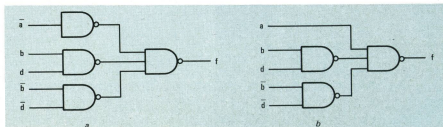

FIG. 8—LOGIC CIRCUIT is derived from reduced Karnaugh map and is shown in *a*. Inverter can be eliminated as shown in *b*.
- 8) Feed each term into a NAND gate, and feed the outputs of the NAND gates to another NAND gate. The circuit is complete. See Fig. 8-a.
Note that Fig. 8-a has  $\bar{a}$  as an input that simply gets inverted before going to the output gate. Instead of this, it would be simpler to feed  $a$  directly to the output gate, as in Fig. 8-b. Also note that the